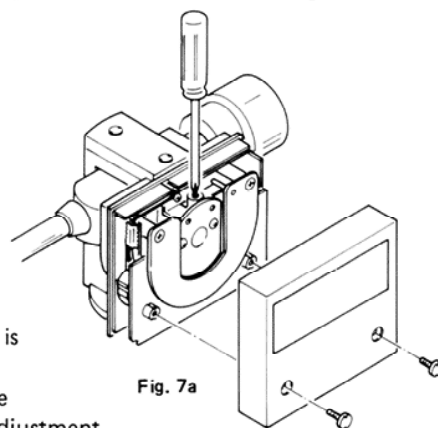

Fig. 7a
3. Turning the adjusting screw clockwise with a Jewellers screwdriver (as shown in Fig. 7a) causes the stylus tip clearance to increase. The appropriate clearance from the record surface is about 6 mm.